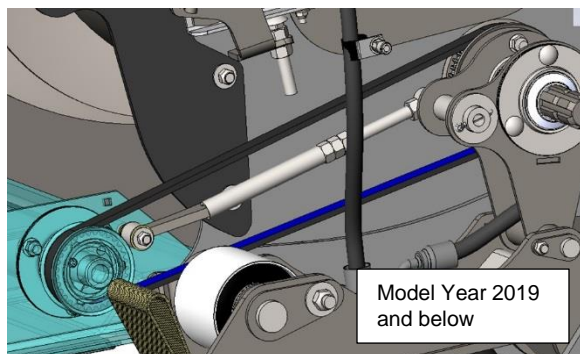
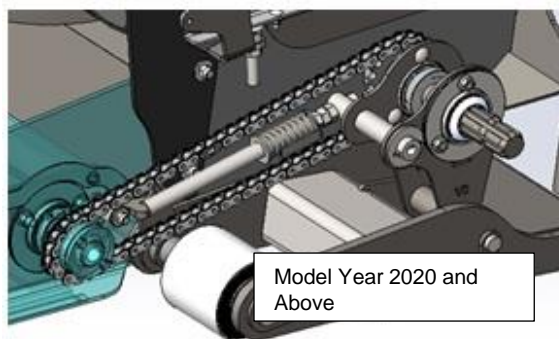

Figure 56
Figure 57
19. Make certain that the belt is aligned with the idler pulley assembly on the subframe. Figure 56 and Figure 57.